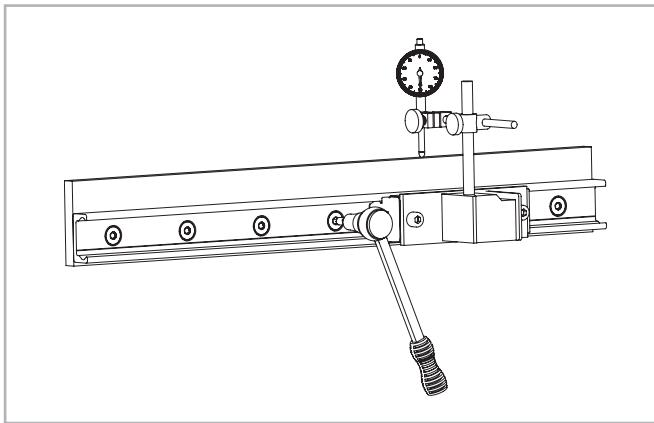

Fig. 159
- (2) Install a dial indicator so that the offset of the rail to a reference line can be measured. Now position the slider in the center of the rail and set the dial indicator to zero. Move the slider back and forth between each two hole spacings and carefully align the rail. Fasten the three center screws of this area now with the the specified tightening torque, see pg. fig. 159.
(3) Now position the slider on one end of the rail and carefully align the rail to zero on the dial indicator.